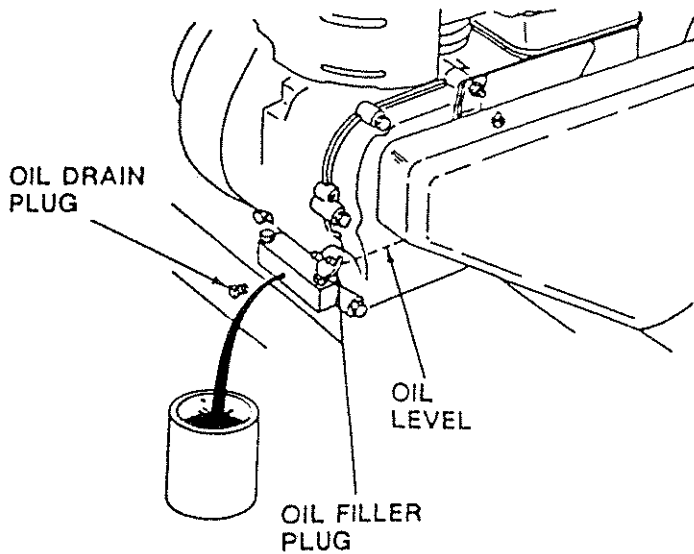

FIGURE 23
Your four cycle Engine will normally consume some oil, therefore check Engine oil level regularly—approximately every five hours of operation and before each usage. Stop Engine and wait several minutes before checking oil level. With Engine level the oil must be even with Oil Fill (Fig. 23). Change Engine oil after the first two hours of operation and every twenty five hours thereafter or at the beginning of every tilling season.
- Remove Oil Drain Plug (Fig. 23).
- b. While Engine is still warm, drain oil from Engine. Refill with fresh oil (Fig. 23).